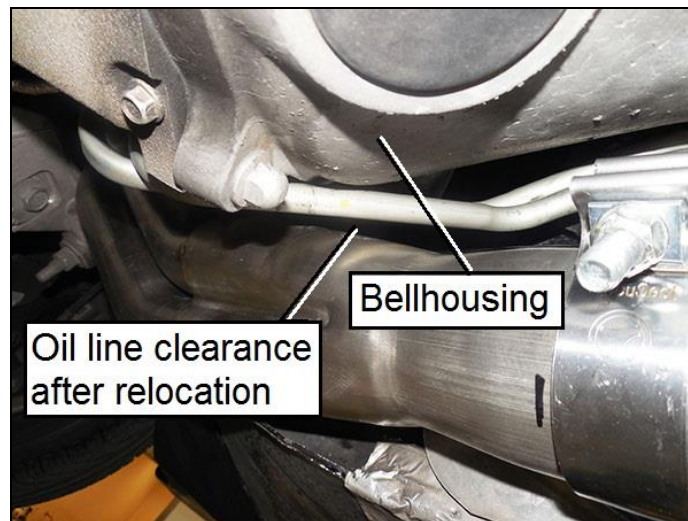

Figure 3
7. **CAREFULLY** bend the lines so that they rest up against the bell housing (**Figure 3**).